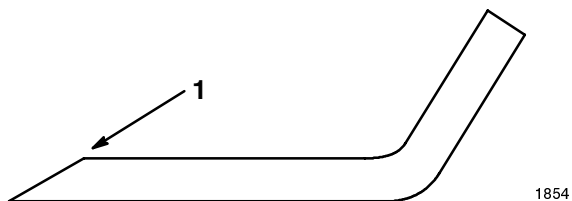

Figure 36
1. Use a file to sharpen the cutting edge at both ends of the blade (Fig. 36). Maintain the original angle. The blade retains its balance if the same amount of material is removed from both cutting edges.